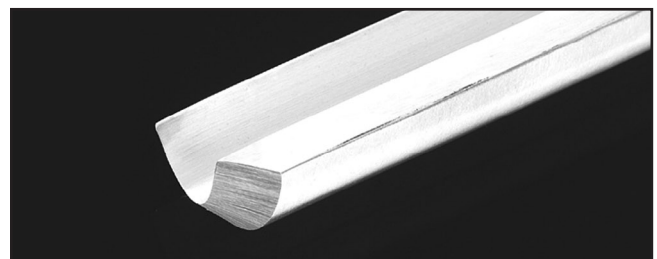

Figure 16. Gouge.
- **Gouges**—Mainly used for rough cutting, detail cutting, and cove profiles. The rough gouge is a hollow, double-ground tool with a round nose, and the detail gouge is a hollow, double-ground tool with either a round or pointed nose. Figure 16 shows an example of a gouge.